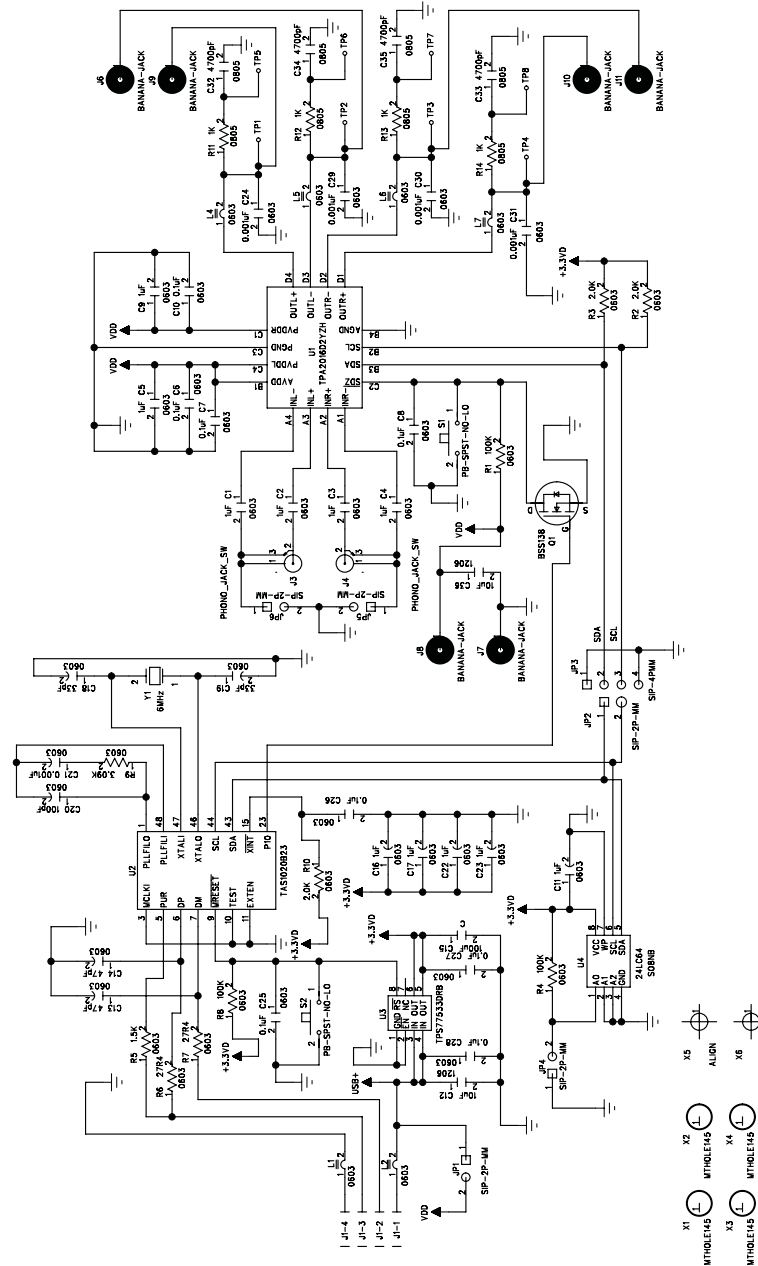

**Figure 5. Connect I2C Controls to JP3**
3. Remove shunts between JP2 and JP3 and connect I2C controls to JP3 as shown in Figure 5.